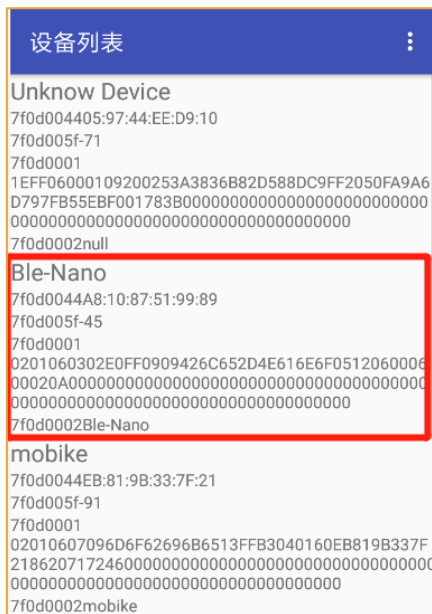

图 1.13
- 3) Install ble\_tool.apk on the phone and open the test APP. The interface is shown in figure 1.13. Find the corresponding bluetooth name (BLE-Uno) and click to connect. After connection, as shown in